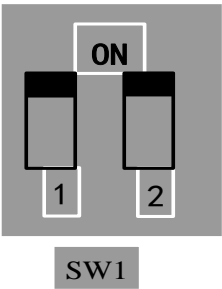

Figure 8-4
- v. (5) There is a red two-digit coding switch SW1 near the control terminal block, as shown in Figure 8-4. The function of coding switch is to select the voltage signal (0~5V/0~10V) or current signal of analog input terminal AI2, current channel is default. In actual application, select the analog input channel through F203. Turn switches 1 to ON and 2 to ON as illustrated in the figure, and select 0~20mA current speed control. Other switches state and mode of control speed are shown in table **Table 8-2**.